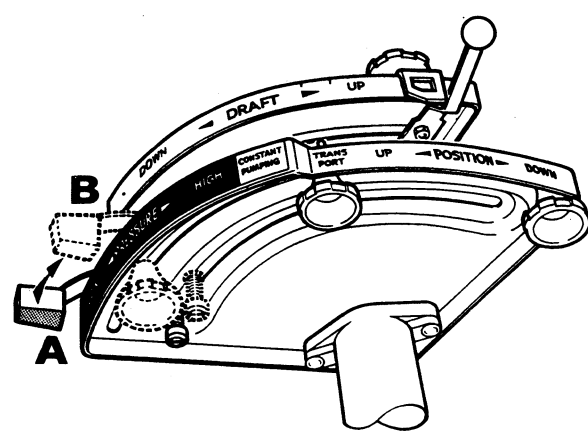

FIG. 15
**Pressure Control (Fig. 15)**